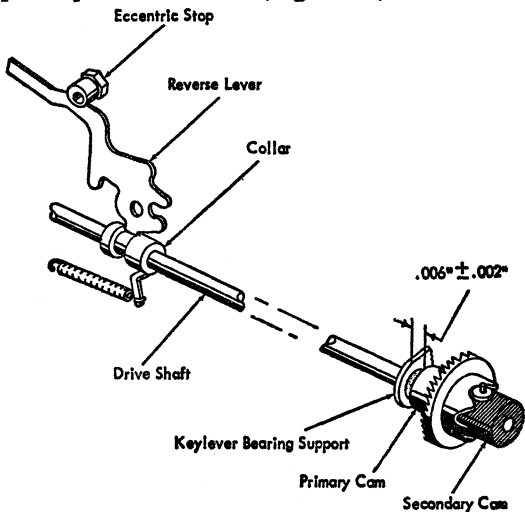

Figure 43. Reverse Lever Eccentric Stop
13. REVERSE - LEVER ECCENTRIC - STOP. With the reverse lever unlatched adjust the eccentric stop until the primary cam clears the keylever bearing-support by $.006'' \pm .002''$ (Figure 43).